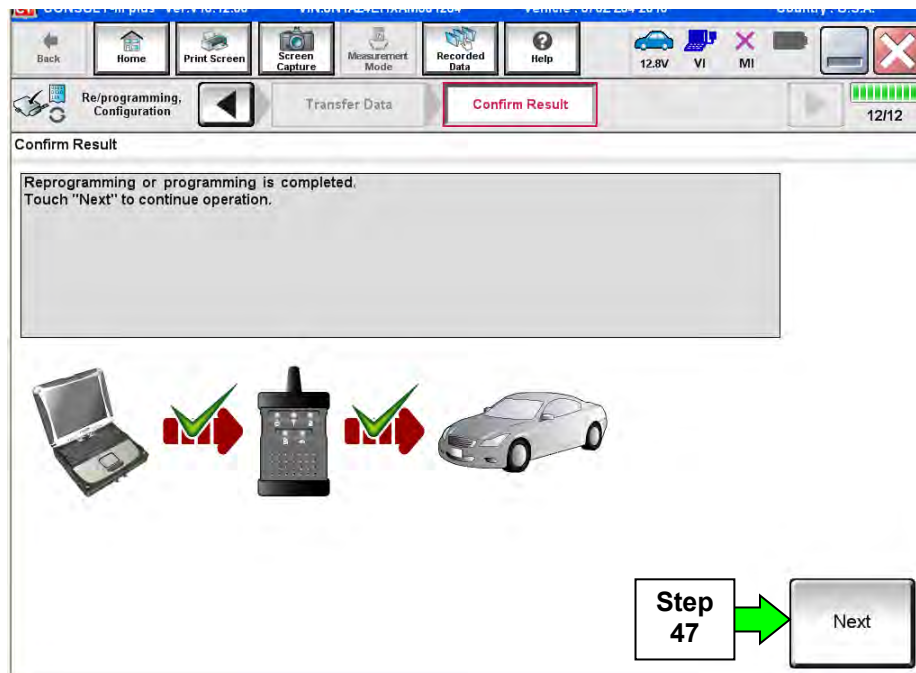

Figure 24
45. When the screen in Figure 24 displays, the reprogramming is complete.
NOTE: If the screen in Figure 24 does not display (which indicates reprogramming did not complete), refer to the information on the next page.